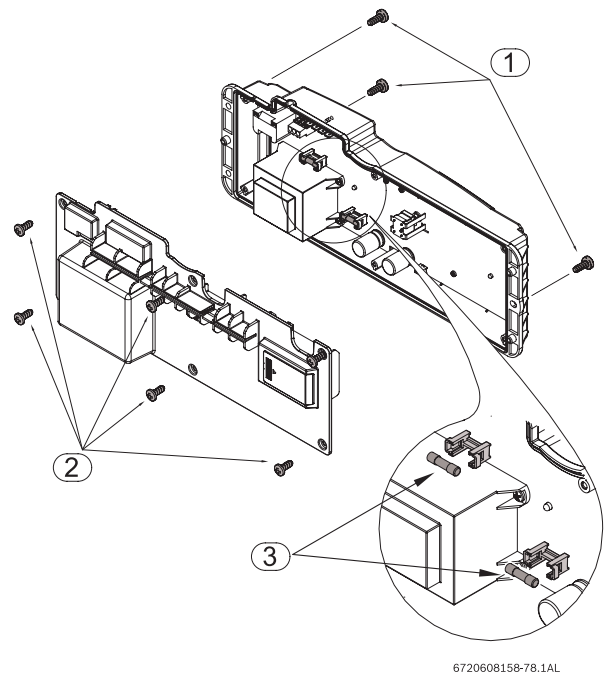

Fig. 36 Location of fuses
- Pull control unit free to access and remove the six screws from the back cover of the control unit, see Fig. 36, pos. 2.
- Check the fuses in the printed circuit board, see Fig. 36, pos. 3.